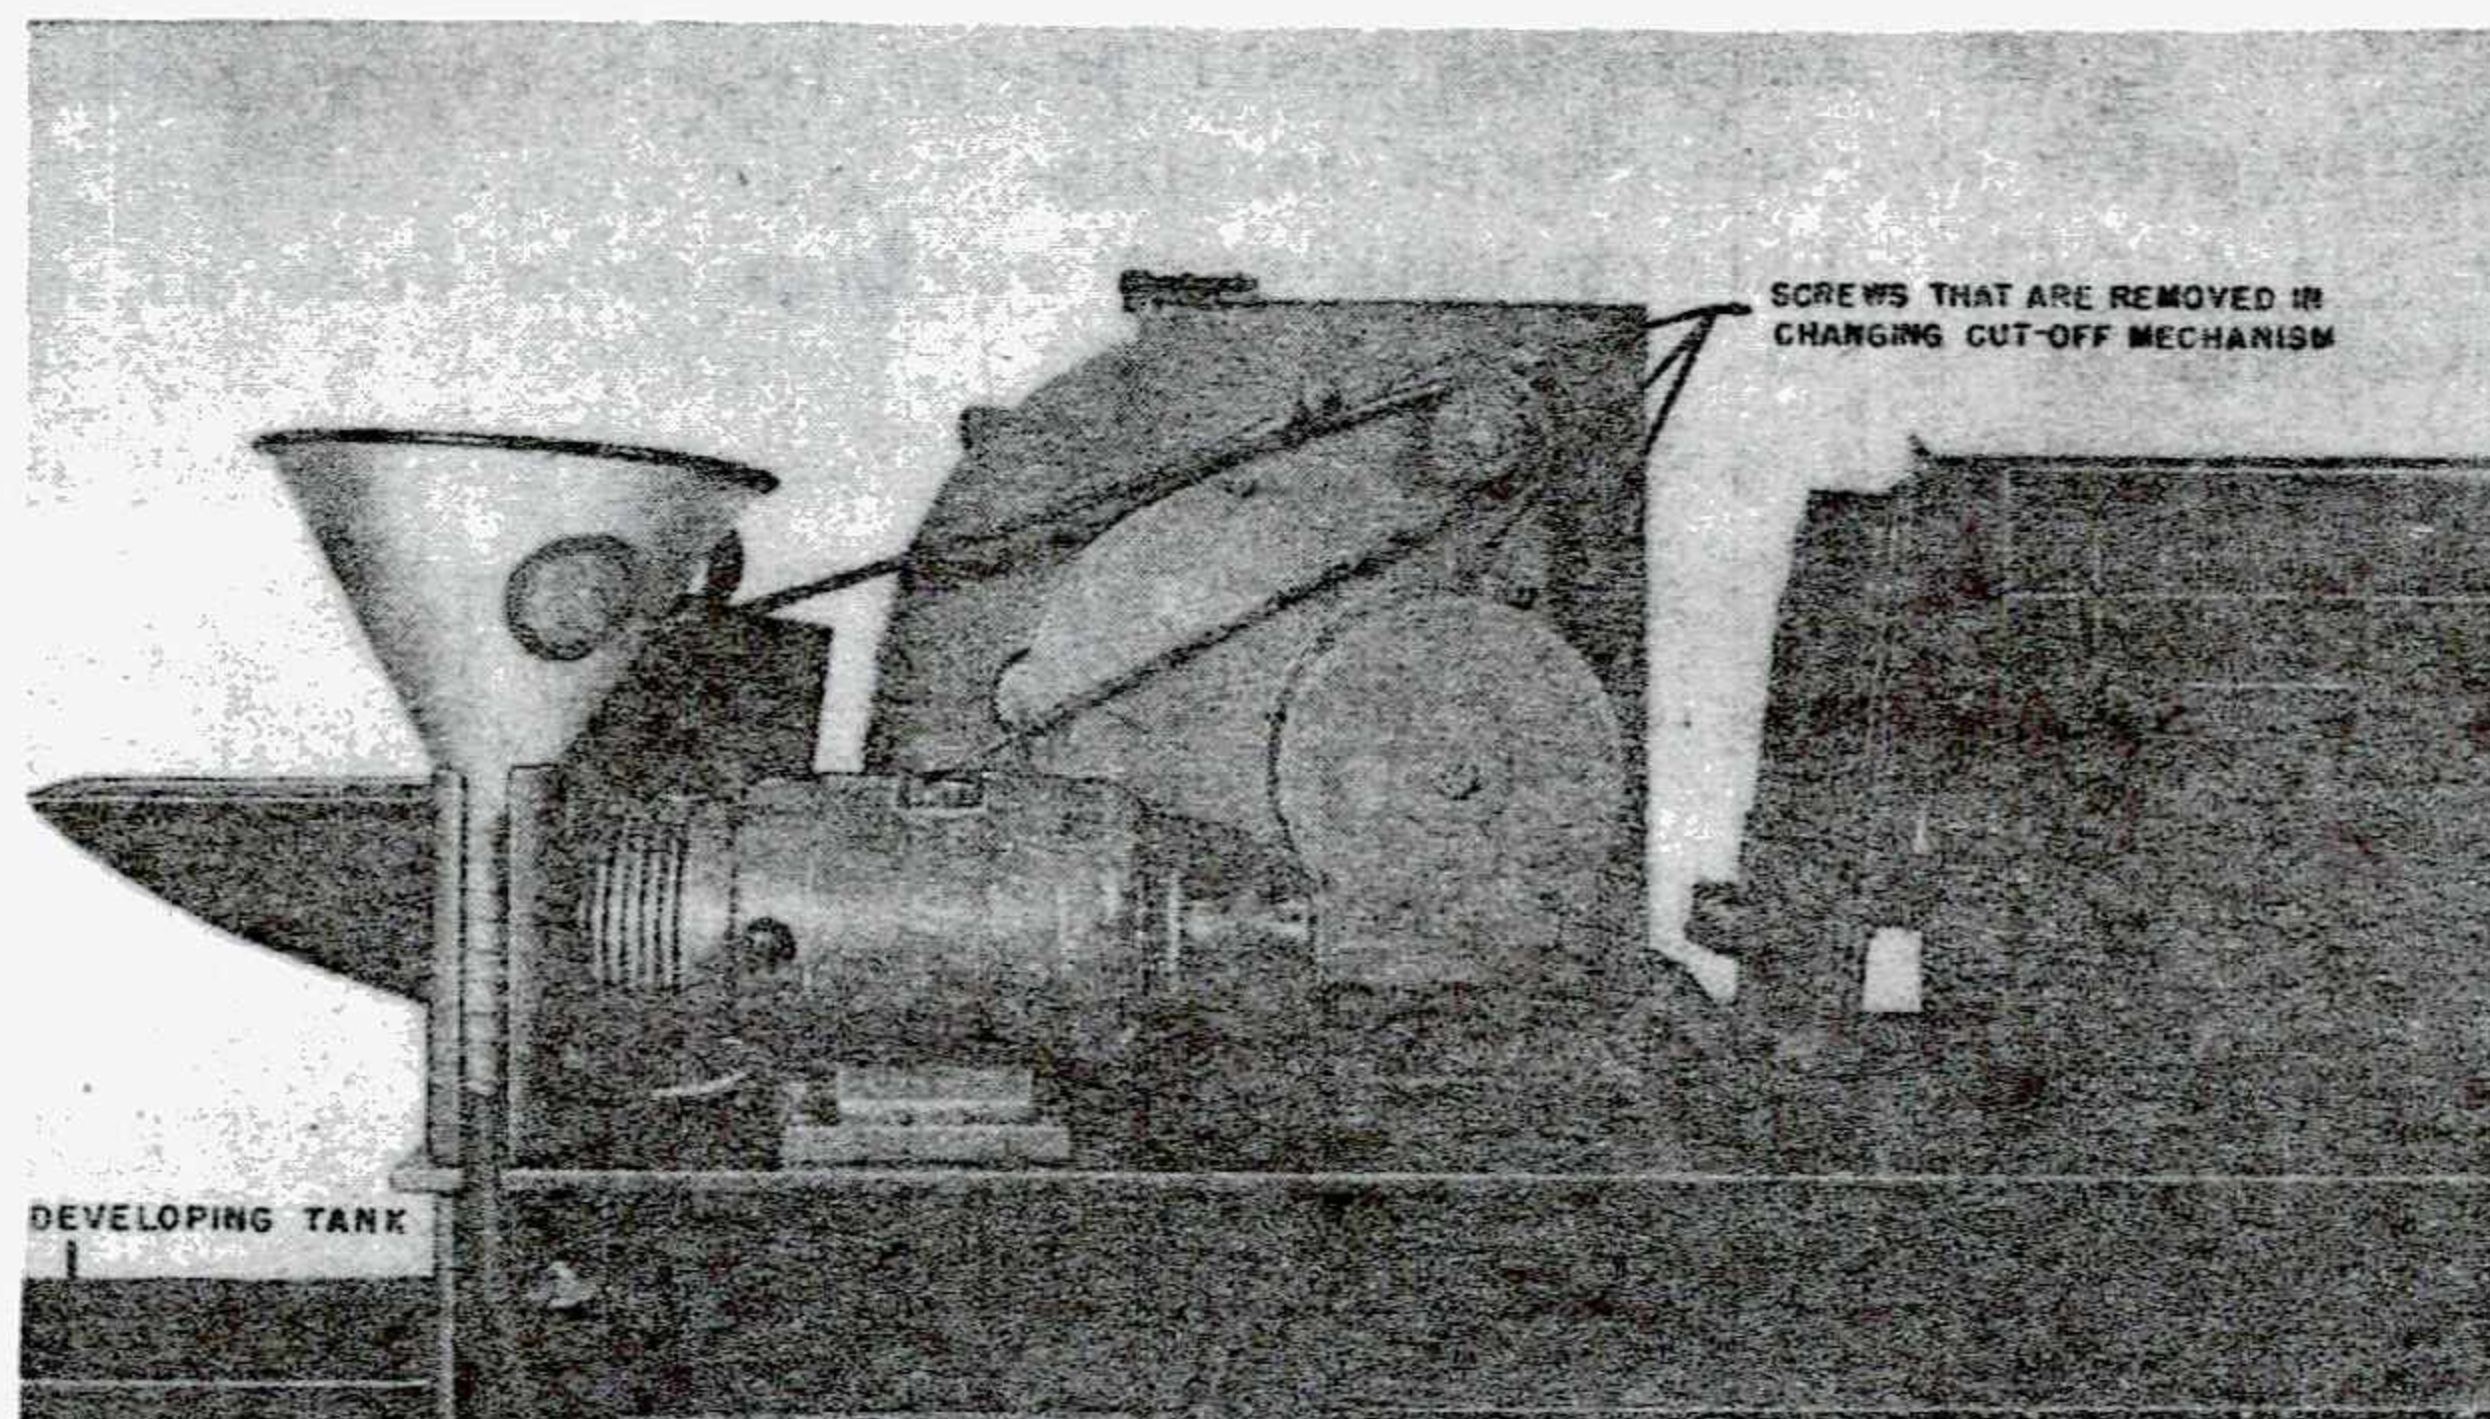

FIG. 23 OSCILLOGRAPH EQUIPMENT IE-14-(*) REAR VIEW OF CAMERA INDICATING SCREWS TO BE REMOVED TO RELEASE CUT-OFF MECHANISM.
(1) Remove the three screws holding the cut-off mechanism to the rear half of the camera housing. The screws will be found on the back of the rear casting: one in the flat of the gear housing directly over the extension one to the right of the housing; the third near the top edge of the camera casting. (Fig. 23)
(Fig. 23)